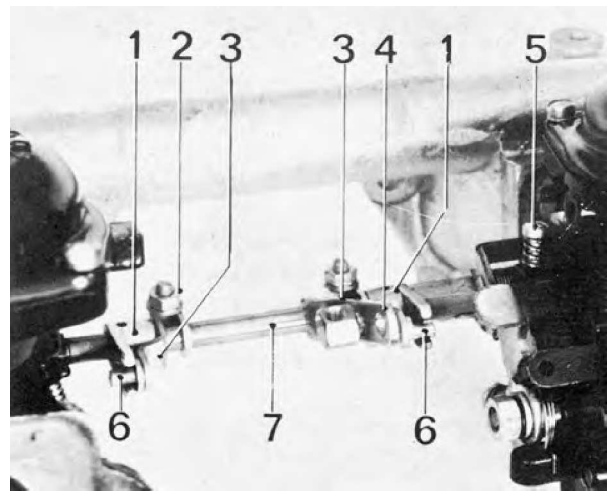

Fig. F8. Carburetor 175 CDSE
When synchronizing the carburetors, the speed cable should be disconnected from the carburetor lever (4, Fig. F8).
1. Screw back all fast-idle stop screws so that there is a clearance between the screws and the cams on the cold start levers. Then adjust the throttle stop screws (5, Fig. F8) so that they just touch the boss on the throttle lever, but without altering the position of the lever.
AQ130: Adjust the levers (3, Fig. F8) in such a position that the bottom edges of the pins (6) actuate the throttle levers (1) for both the carburetors simultaneously, and lock them in this position.
AQ165: Adjust the levers (3, Fig. F8) between the middle and rear carburetors so that the bottom edges of the pins (6) actuate both the carburetors simultaneously, and lock them. Then connect up the cold start lever to the middle carburetor. Lock the levers (3) between the middle and rear carburetor so that there is a total clearance of 0.5 mm (0.02") between the bottom edge on the pins (6) of the levers and the recess in the throttle levers. Thereafter check when connecting up the cold start lever for the middle carburetor that the front carburetor is not influenced.
5. Check that the intermediate shaft (7) has an axial clearance of approx. 1 mm (0.04").
6. Connect the cube of the control cable to the control lever (4) so that the pins (6) on the levers (3) for the intermediate shaft (rear intermediate shaft, AQ165) are in the middle of the gap for the levers (1) of the throttle shaft. N. B. This space must be found in order to be able to connect up the cold start levers.